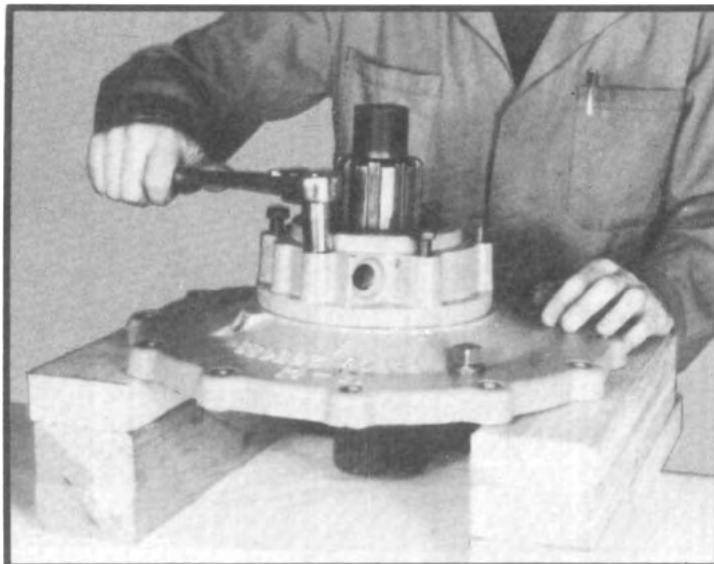

Fig. 44
- 2.5 Remove six capscrews holding seal carrier to differential carrier cap. Tap seal carrier to loosen and remove. (See fig. 44.) If the seal is to be replaced remove the seal from the seal carrier. Removal procedure will damage the seal and removal should not be attempted unless replacement of the seal is planned.